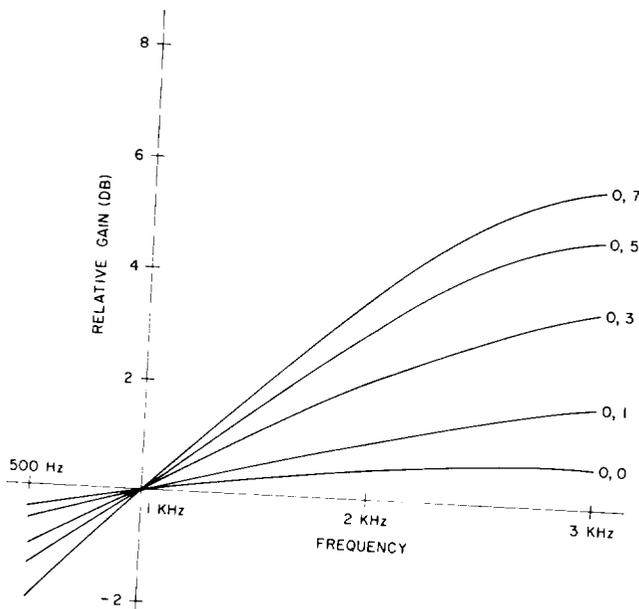
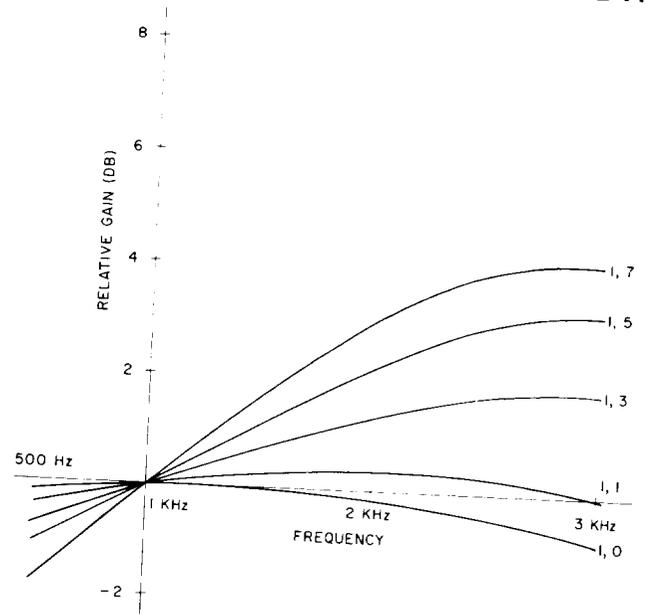

Fig. 10—Amplifier/Equalizer Response A=0
Fig. 11—Amplifier/Equalizer Response A=1
4.03 Figures 10 and 11 give the frequency response of the gain and equalizer unit for the J99343PB, L3. Figure 10 gives the response curves for various equalizer settings with the A switch set to 0. Figure 11 provides curves for the same equalizer settings with the A switch operated.